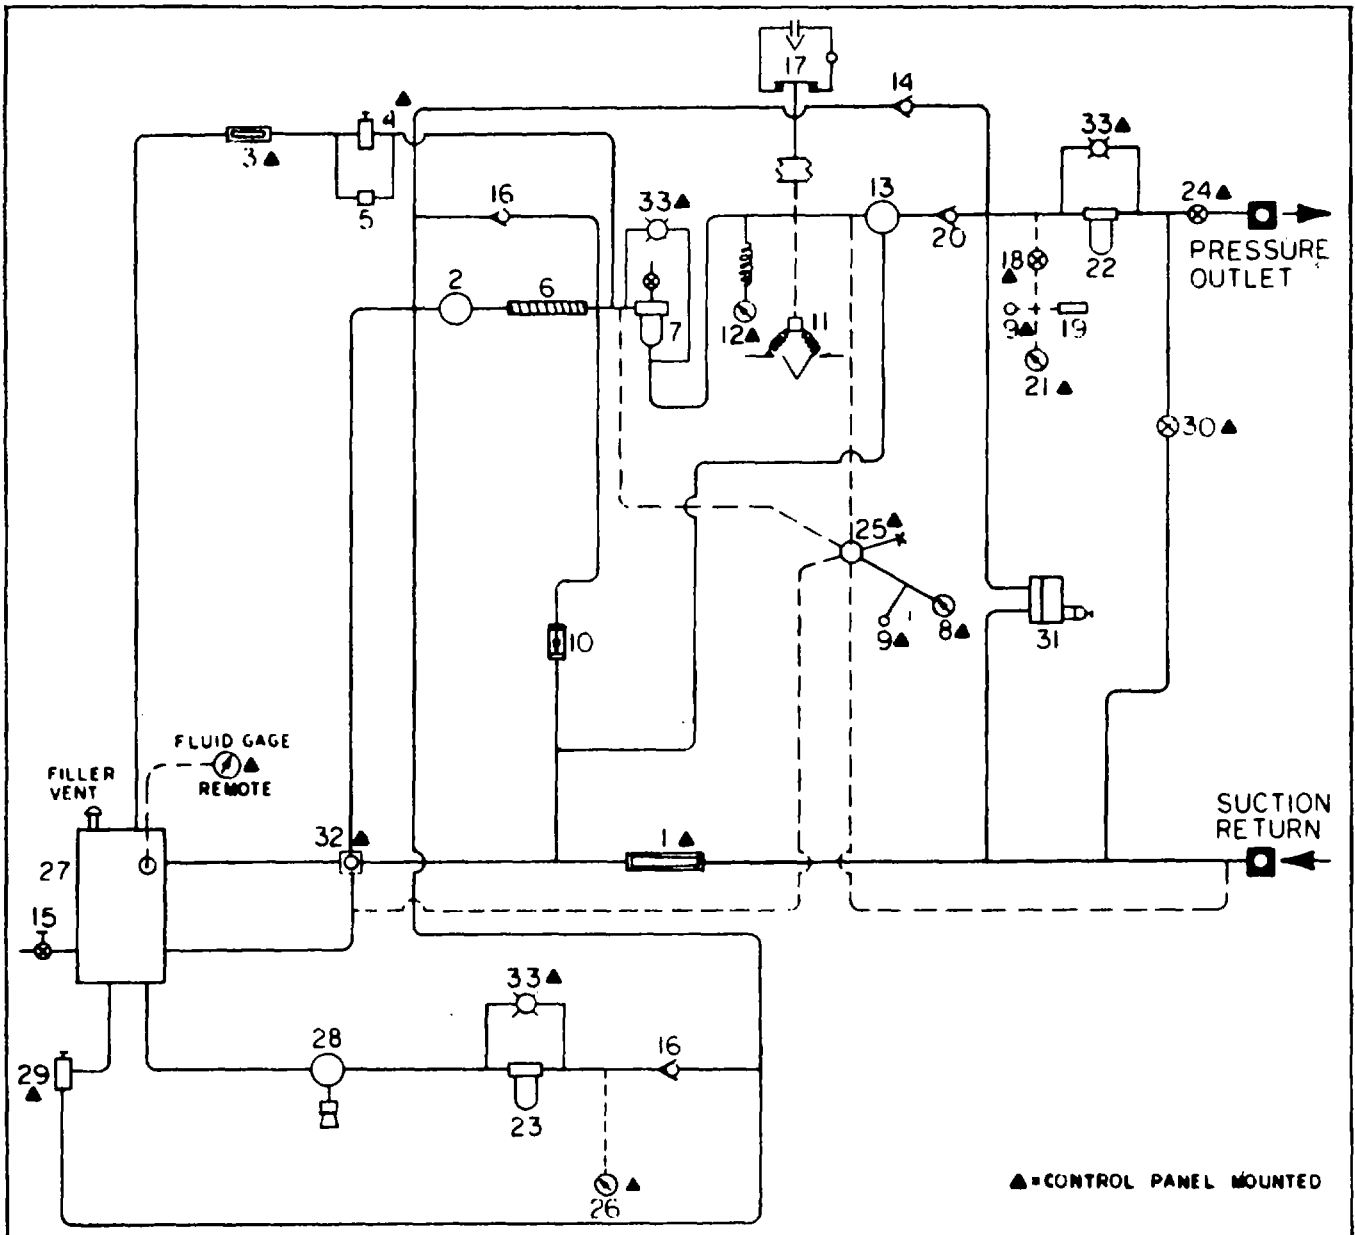

FIGURE 1-4. HYDRAULIC SCHEMATIC DIAGRAM
**Bleed system.** (refer to figure 1-4). The test stand hydraulic system incorporates a bleed valve (4) to eliminate entrapped air from the system and sight glass to observe the fluid flow to the hydraulic reservoir. The valve is actuated by pressing in on the spring loaded valve stem with a push-type handle on the control panel. Air and fluid are bled to the reservoir from the low pressure filter and the cooler. A thermal relief valve in parallel with the bleed valve prevents increased pressure in the cooler and filter caused by thermal expansion.
a. (See figure 1-4). The boost pump (2) fluid from the aircraft through the suction return port and flowmeter (1). The output of the boost pump is passed through the cooler (6) and the low pressure filter (7) to the suction side of the high pressure pump (13). The boost pump pressure is controlled by the low pressure relief valve (10). The output of the high pressure pump is passed through the high pressure check valve (20), the high pressure filter (22), the flow control valve (24) and the pressure outlet to the aircraft. The output pressure is controlled by the high pressure relief valve (31) and a compensator control on the high pressure pump. The output is controlled by the flow control valve (24), and regulated by a volume control on the high pressure pump.
b. The flowmeter (1) is a transparent tube type equipped with a metal float. The flowmeter scale is calibrated for 3 to 30 gpm of hydraulic fluid at 125° F. A calibration curve is mounted on the control and instrument panel access cover. This calibration curve is used for converting flowmeter indications at various fluid temperatures.
c. The fill and bleed system can be operating in either the bleed or fill mode. In the fill or bleed mode of operation, the fill pump motor and pump (28) are energized by the fill pump switch. When a fill valve (30) is opened, the fill pump draws fluid from the oil reservoir (27) and passes fluid through the fill pump filter (23), low pressure check valve (16) and the actuated fill valve.
d. In the bleed mode of operation, when a bleed valve (4) pushbutton is depressed, fluid flows from the low pressure filter (7) through the actuated bleed valve (4) to oil reservoir (27). The bleed valve system consists of a spring-loaded shutoff valve and a sight gage (3). The sight gage is a transparent tube that provides a means of checking the air bleed operation.
The item numbers used on the hydraulic schematic diagram, figure 1-4, are those assigned to the same components on the unit and used on the marker plates on the control panel. Control settings are explained in table 2-2.